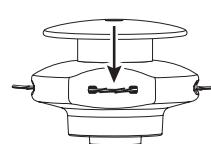

Fig. 20
5. Push the trimmer line until it lies flat against the cutting head (Fig. 20). Make sure the two lengths of cutting line are of equal length. If they are not, adjust until they are.